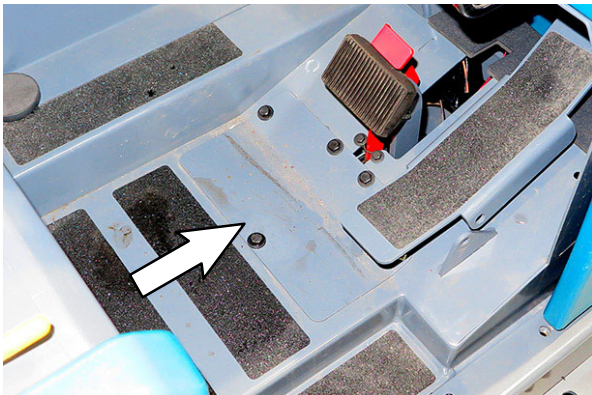

FIG. 2
9. Remove the access panel from the floor of the operator compartment. Set the access panel and hardware aside. (Fig. 2)